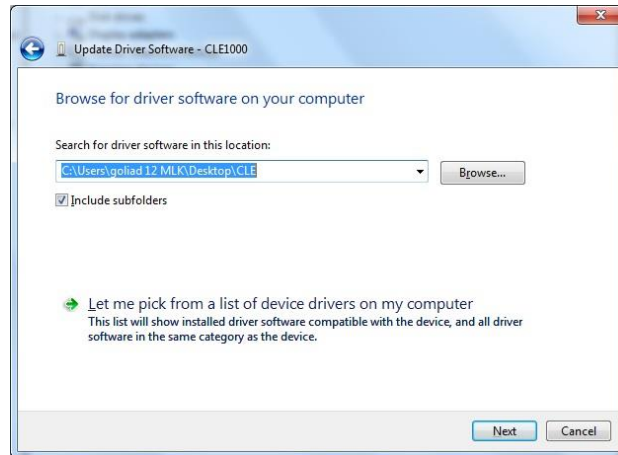

FIGURE 64. UPDATE DRIVER WINDOW
- b) Select **Browse My Computer for Driver** from Windows dialog. See Figure 64.